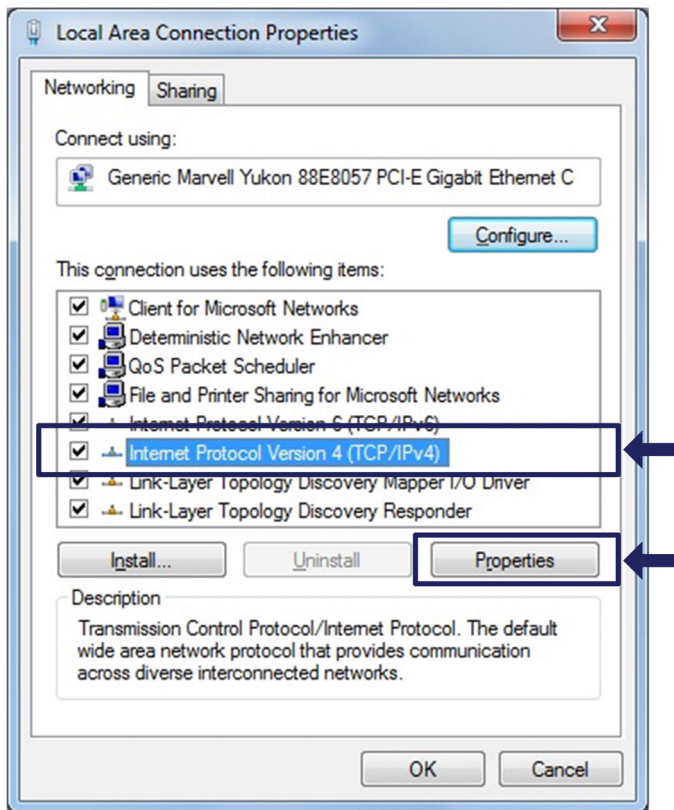

Fig. 3.8 Local Area connection properties
- ▶ Select the Internet Protocol (TCP/IP) and click on the button **Properties** (Fig. 3.8).